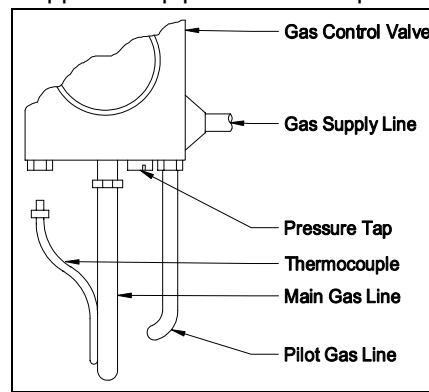

Figure 2
1. Remove pressure tap plug in gas valve. (See Figure 2)
1. Remove the thermocouple from the gas control valve. (See Figure 2)